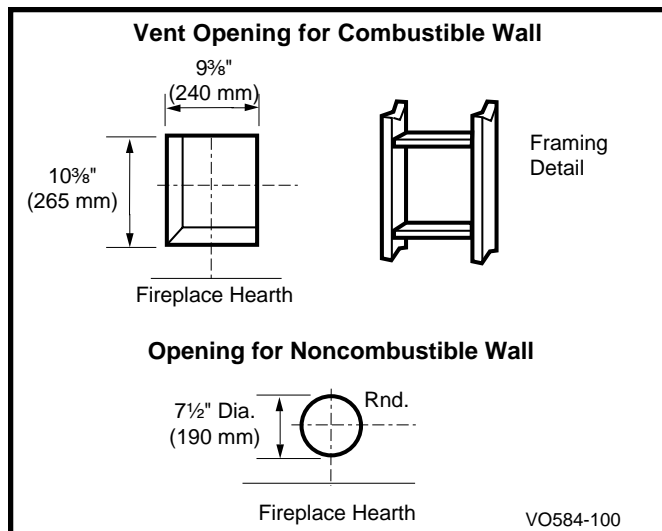

Fig. 21 Locate vent opening on wall.
Locate and cut the vent opening in the wall. For combustible walls first frame in opening. (Fig. 21)
**Combustible Walls:** Cut a 10 3/8"H x 9 3/8" W (265mm x 240mm) hole through the exterior wall and frame as shown. (Fig. 21)